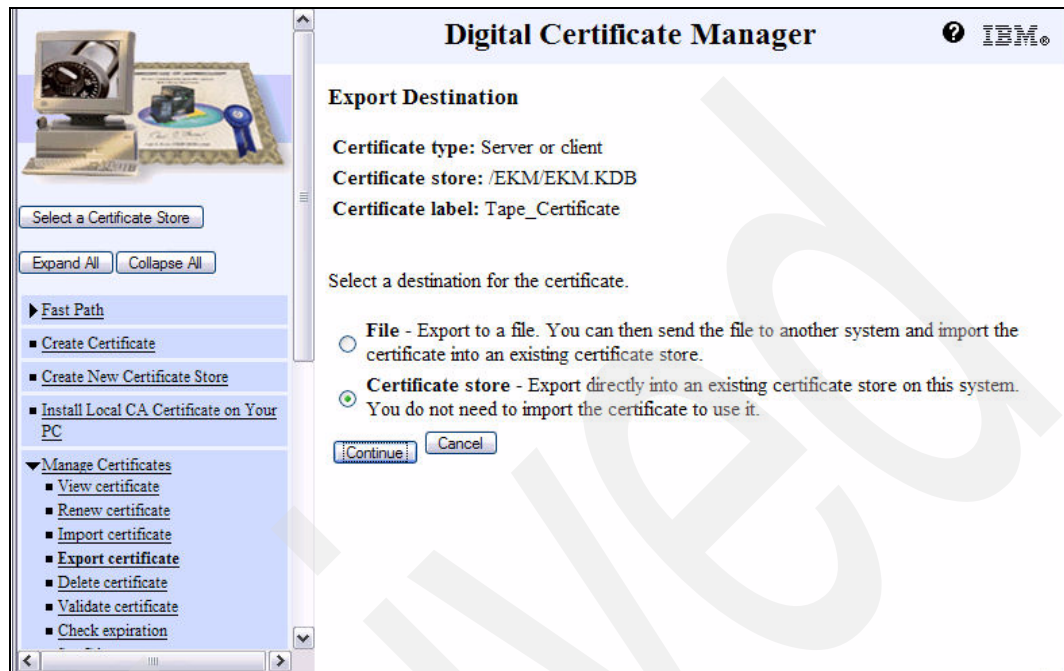

Figure 7-43 DCM Export Destination screen
10. After clicking **Export**, select the option **Certificate Store** for the export destination to export the certificate into the previously created *OBJECTSIGNING certificate store as shown in Figure 7-43.